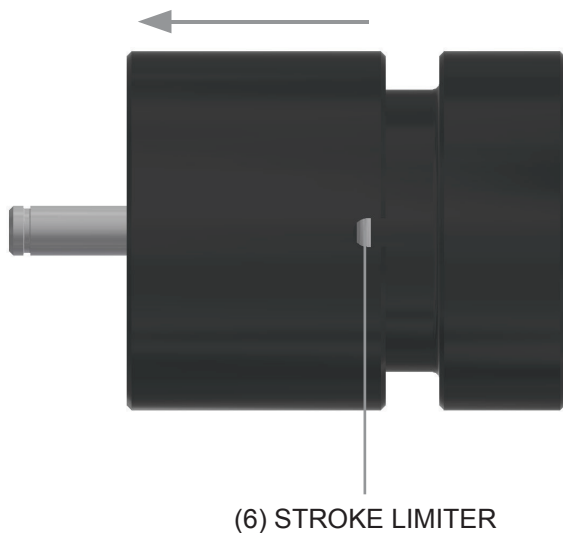

Figure 10. Removal of Stroke Limiter
3. Use a small pick to remove the snap/retaining ring. See Figure 10.